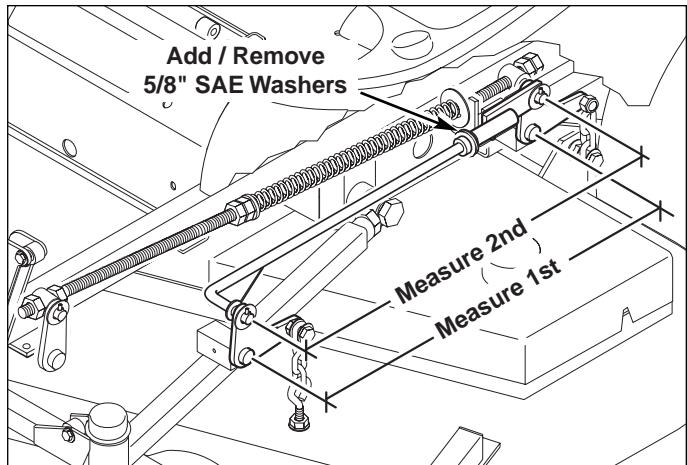

Figure 30. Lift Rod Adjustment
5. See Figure 30. Measure the distance between the rear lift pivots and the suspension-mounted lift pivots. Add or remove 5/8" SAE washers from in between the deck lift rod and the lift link until measurements are equal.